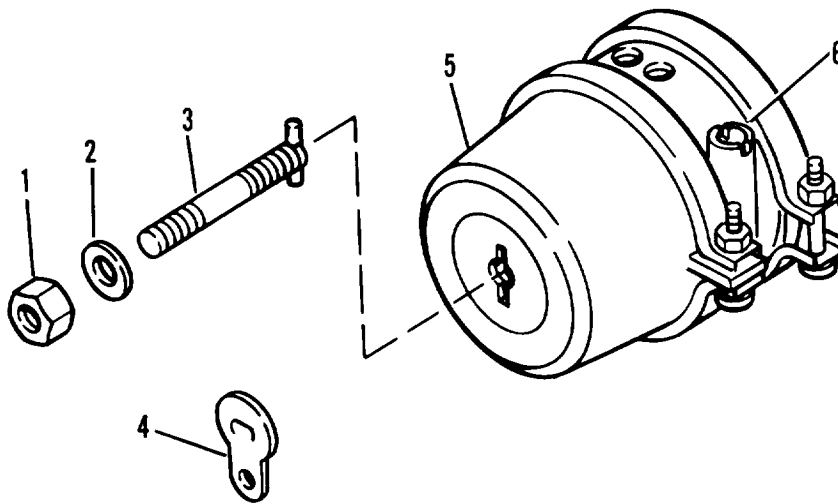

Figure 4-31. Uncaging failsafe
- b. Slowly loosen nut (1, figure 4-31) and washer (2) on release tool (3). Remove nut (1) and washer (2).
- c. Turn release tool (3) 1/4 turn counterclockwise to unlock from manual release position. Remove release tool (3).
- d. Install plug (4) on air brake chamber (5).
- e. Insert release tool (3) in mounting hole (6) in air brake chamber (5). Secure release tool (3) with washer (2) and nut (1).